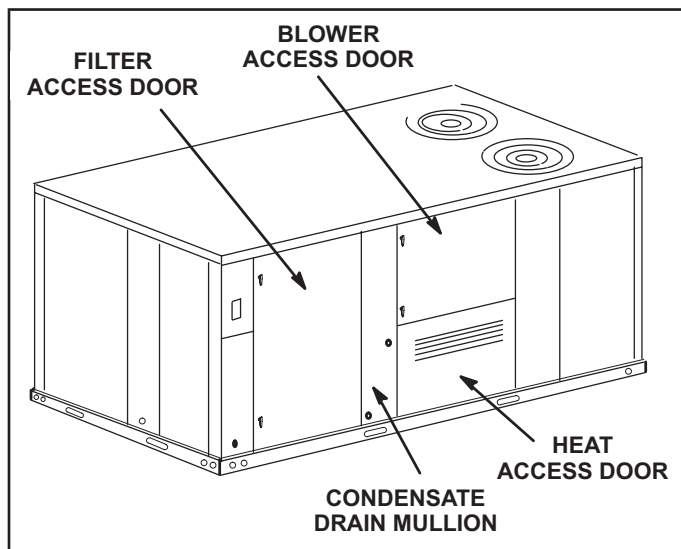

FIGURE 5
- 1 - Open blower and heat access doors. See FIGURE 5.